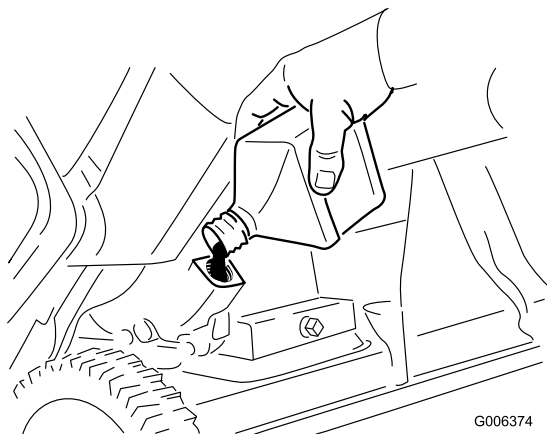

Figure 33
8. With the machine in the operating position, **carefully** pour oil into the oil fill hole to the point of overflow (Figure 33).